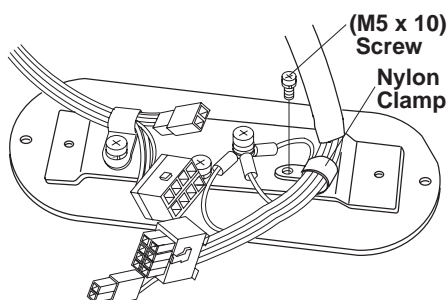
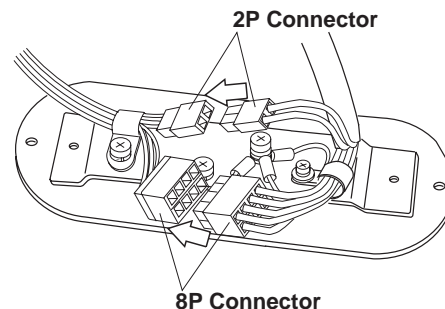

Fig.3-12B Attaching Balance Arm Cable on Bottom Cover
Fig.3-12C Connection of Connectors on Bottom Cover
5. Secure the wires from the balance arm to the bottom cover with the nylon cable clamp to prevent damage from twisting. (**Fig.3-12B**) Then connect the 2P and 8P connectors. (**Fig.3-12C**)